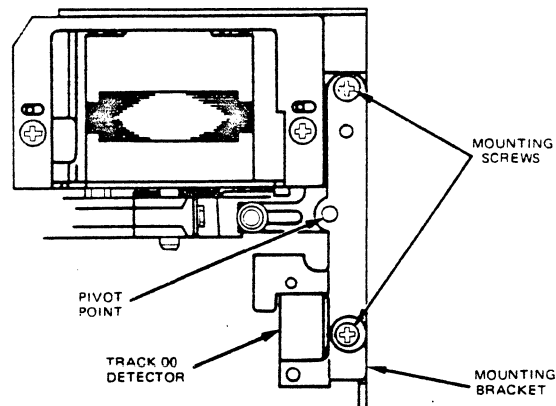

Fig. 9.9 Track 0 Adjustment
- (1) Step between specified tracks at in the FLAG 0 item of Table 8.1 (Turn the seek delay switch on the exerciser to adjust 12 ms seek.)
- (3) Loosen the track 0 sensor screw and adjust until the waveform on the oscilloscope appears as shown in Fig. 9.9.